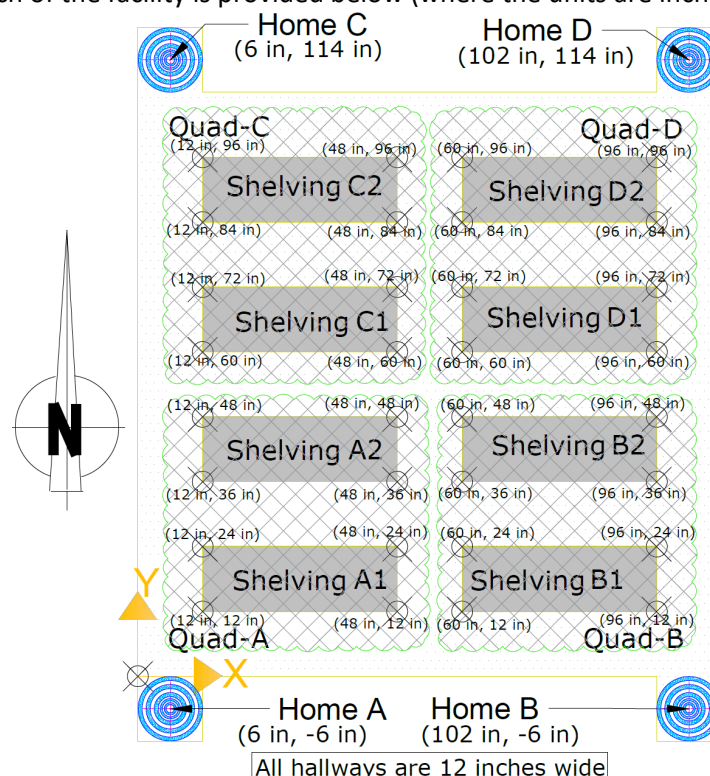

Figure 1. Schematic of the hypothetical facility⁷
7. Figure 1 replaced. Dimensions now shown in inches and coordinates of shelving units added.